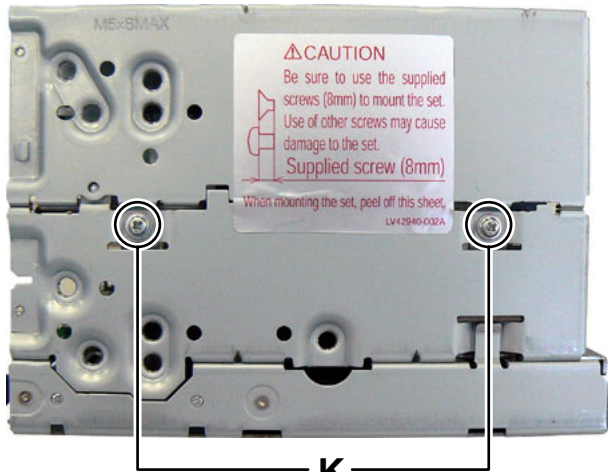

Fig.12
- (4) Remove the four screws K attaching the both side of Top chassis. (See Fig.12, 13)